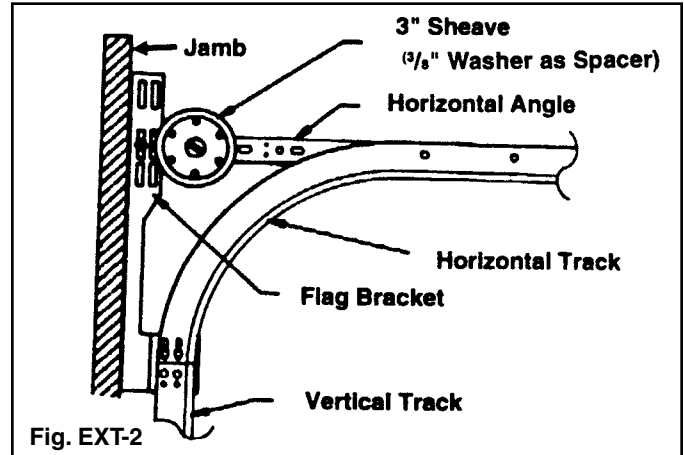

Fig. EXT-2
Step 2: Attach a sheave in the third hole on the angle approximately 4 inches from the wall on both sides. Use a 3/8" x 1-1/4" bolt, 3/8" washer and nut. The head of the bolt must be on the door side. (FIG. EXT-2)